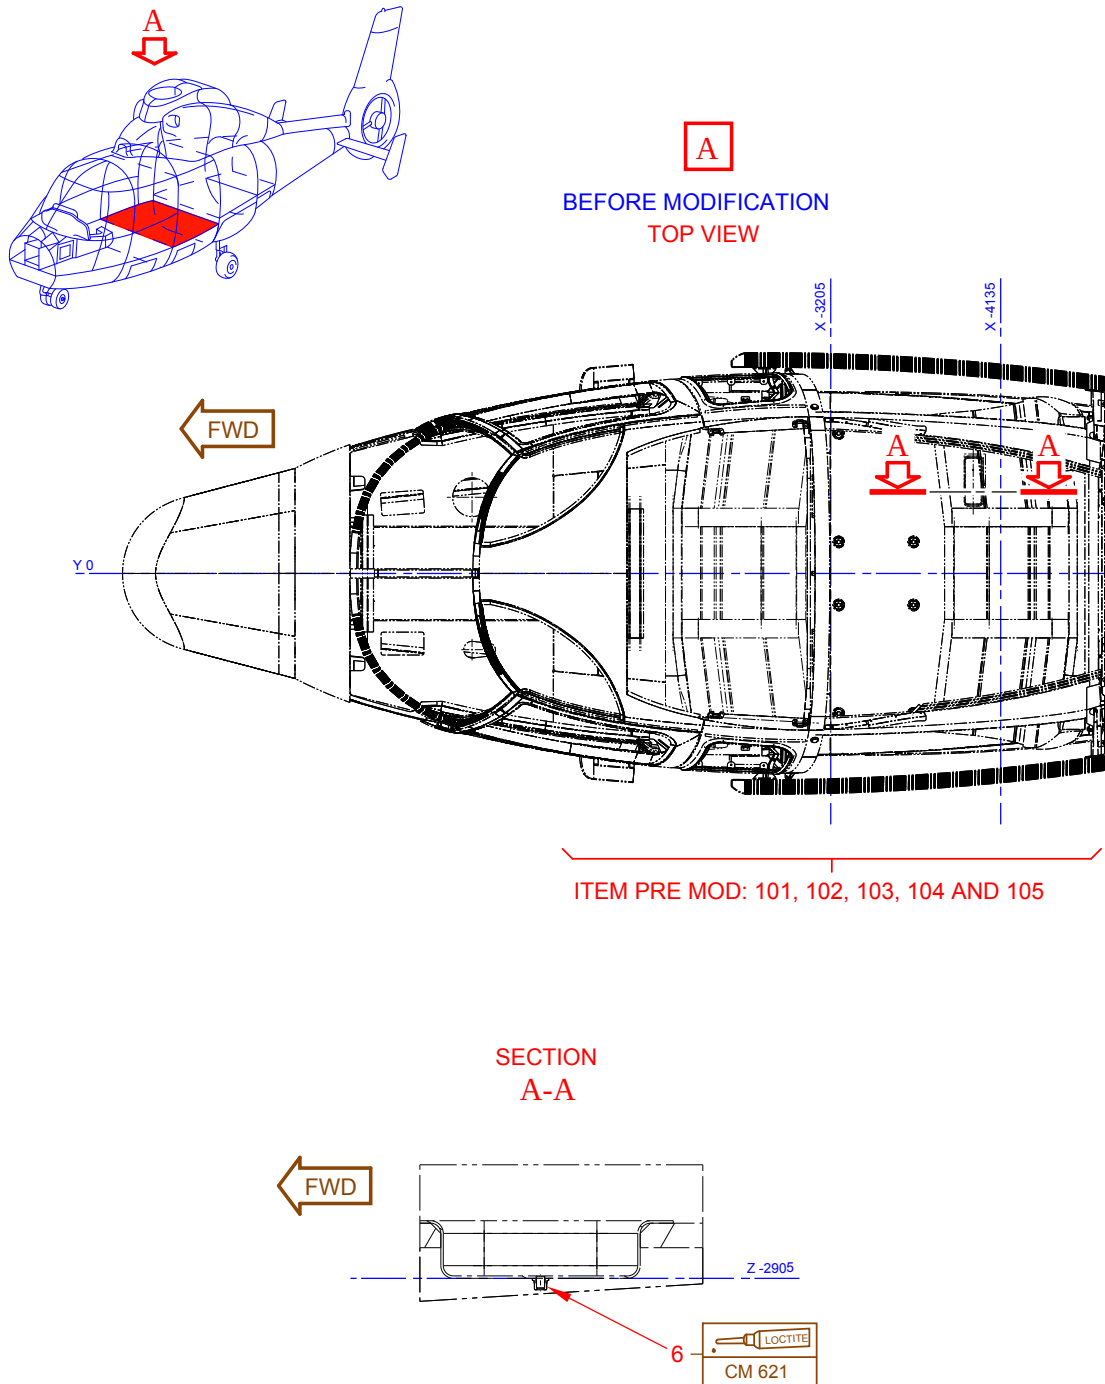

Figure 1
4.1. Procedure to removal of the fire extinguisher and the bracket for S/N 6575 (Figure 1)
- 4.1.2. Close the nut plates with POLYAMIDE SCREW PA6/6M4X6 (6) and Locking compound CM 621, refer to section A-A of (Figure 1)